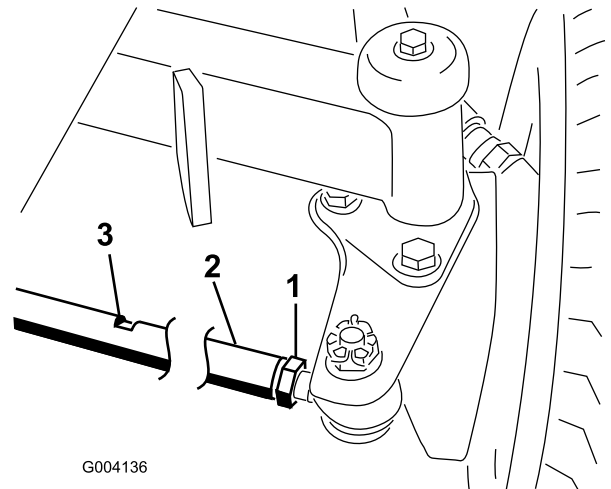

Figure 77
2. Loosen the jam nut on each end of the tie rod (Figure 77).